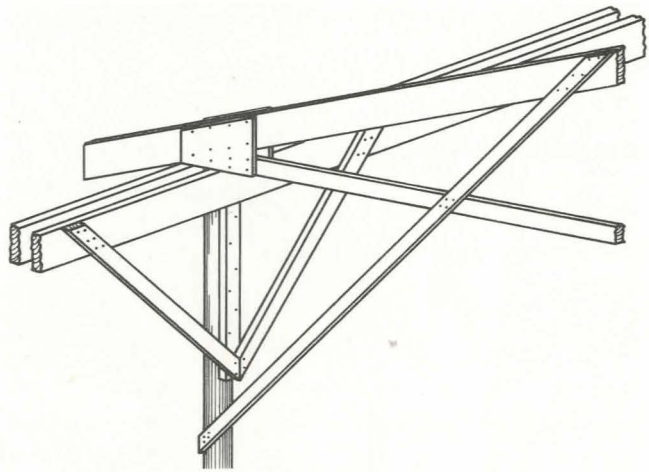

Fig. 12.
48. Recheck building for plumb. Sight along plates on the front of the building to be sure they are straight. It is possible that the plate on the back side of the building can be slightly out of line. There are two choices (1) leave as is, or (2) split the difference on the two sides.
50. Install bracing as shown on the plan (Fig. 12).